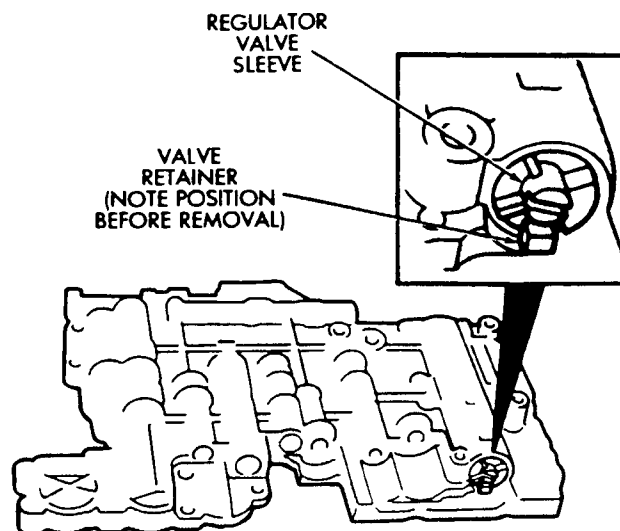
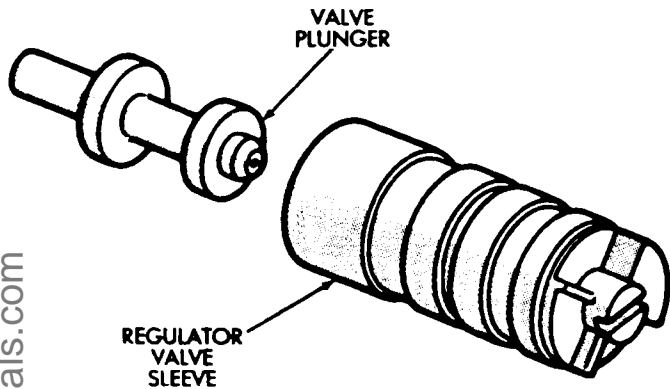

Fig. 6 Regulator Valve Retainer Position
Fig. 8 Removing/Installing Regulator Valve Plunger
(6) Install primary regulator valve plunger in valve sleeve (Fig. 8).
(7) Install valve spring and regulator valve sleeve and plunger.
(8) Press regulator valve sleeve into bore and install retainer (Fig. 6 and 7). Be sure retainer is positioned in sleeve lugs as shown.